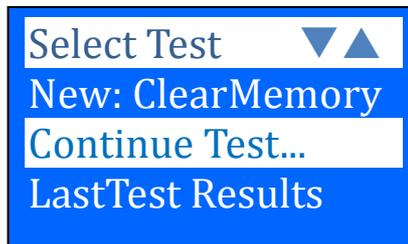

Figure 49
- It will run through a self-test and when completed it displays the Main Menu as shown: (Fig. 49)